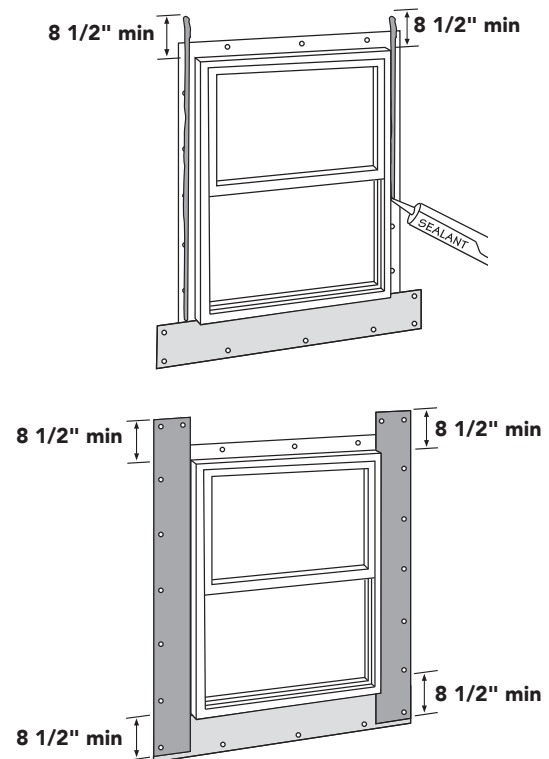

Figure 29
- Apply a continuous bead of sealant to the nailing flange of the jambs in a manner that covers the nails and nail slots. Continue the bead of sealant at the jambs vertically a minimum of 8 1/2" (216mm) above the head of the window to allow for bedding the top portion of the jamb flashing into sealant in the next step. Install the jamb flashing by pressing the flashing into the sealant beads at the window jambs. Extend the bottom edge of the jamb flashing approximately 1/2" (12.7mm) short of the sill flashing edge and extend the top edge approximately 8 1/2" (216mm) beyond the head of the window, where the head flashing will be placed next. Fasten the jamb flashing along the edges further most from the window (Figure 29).